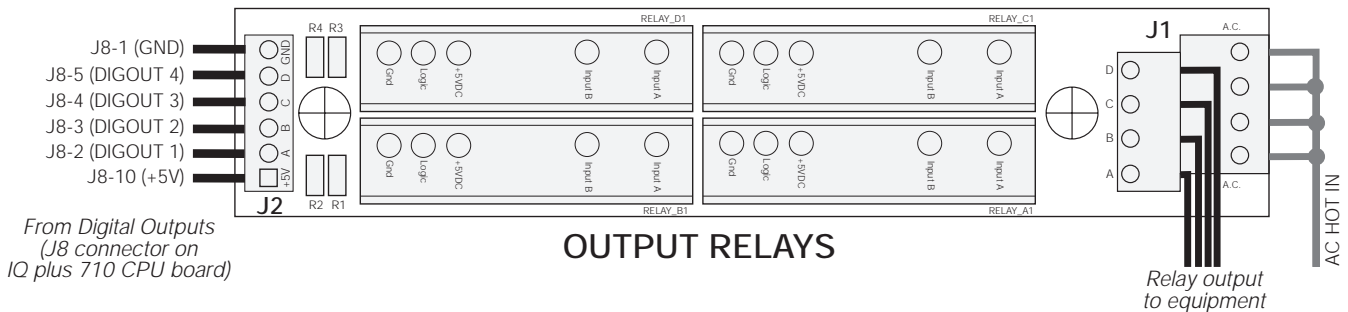
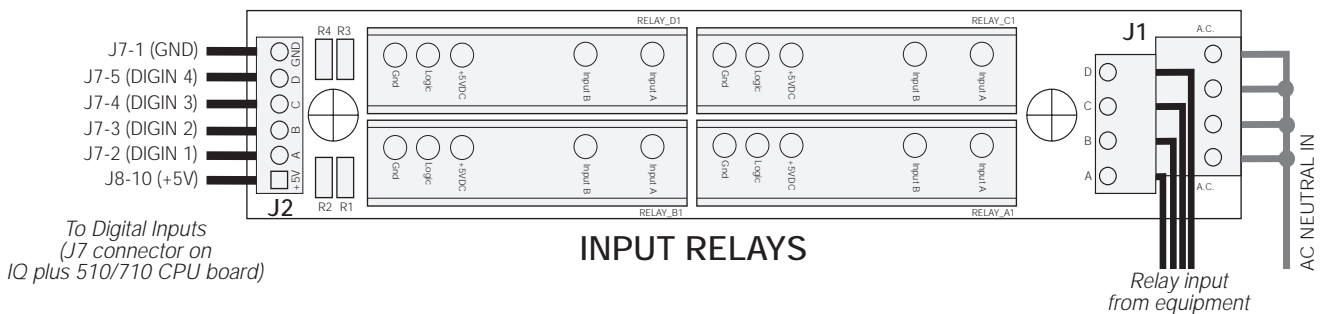
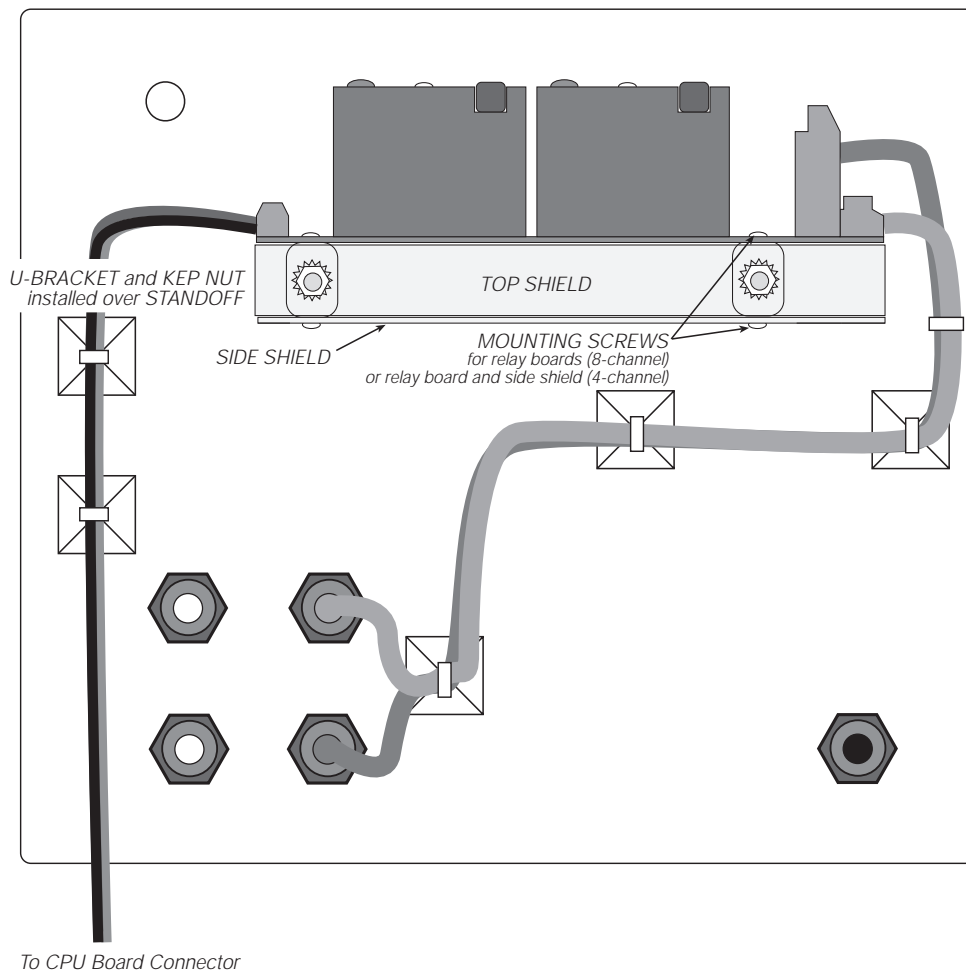

Figure 1. IQ plus 710 Output Relay Wiring
Figure 2. IQ plus 510/710 Input Relay Wiring
Figure 3. Indicator Backplate, Showing Installed 4-Channel Relay Rack, Mounting Hardware, and Cable Routing
3. Install standoffs onto the studs on the indicator backplate. Mount U-brackets on the standoffs, place protective shield on top of brackets, and secure with kep nuts (see Figure 3 on page 2).
4. For IQ plus 710 indicators using output relays, remove connector J8 from the CPU board and wire the relay board to the connector as shown in Figure 1.
For IQ plus 510 or 710 input relays, remove connectors J7 and J8 from the CPU board and wire as shown in Figure 2.
5. Loosen cord grips and route cables for external equipment into the enclosure as shown in Figure 3 on page 2. Attach cables to relay board as shown in Figure 1 or Figure 2.
6. For 4-channel (single-board) relay options, mount the relay board to the U-brackets as shown in Figure 3 and secure with two of the screws provided. Use the remaining two screws to attach the second protective shield to the opposite side of the U-bracket.
8. Use cable ties and mounts to secure cabling to the inside of the indicator enclosure as shown in Figure 3.